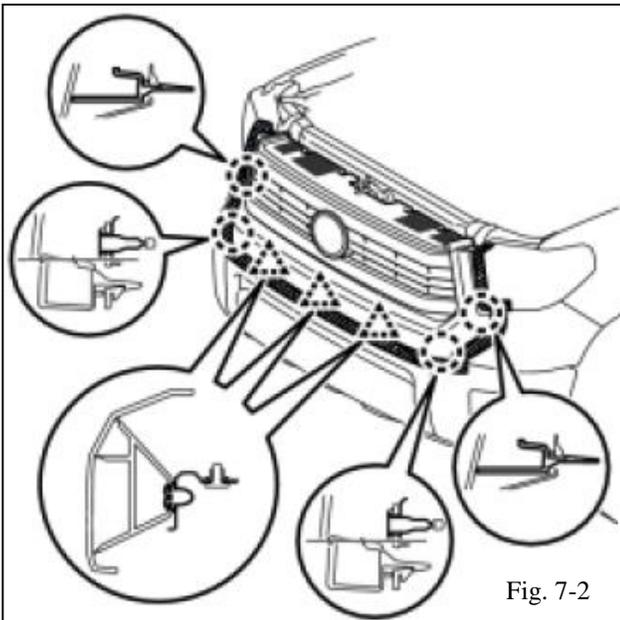

Fig. 7-2
- (c) Detach the 4 claws and 3 clips and remove the radiator sub-assembly (Fig. 7-2).